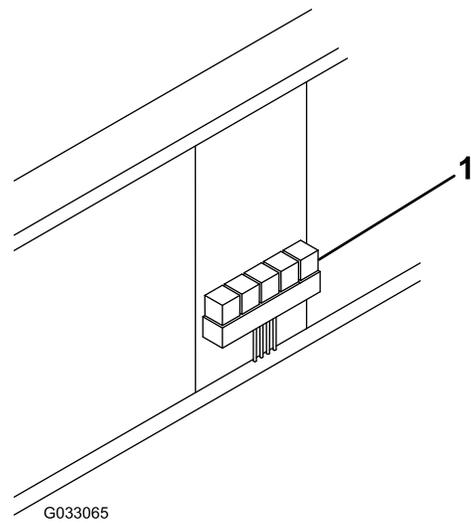

Figure 21
- 29. Mount the relay pack to the inside of the engine compartment using 4 sheet-metal screws (Figure 21).